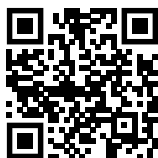

Fig. 49
- Aprire la Liebherr SmartMonitoring Dashboard. (vedere Fig. 49)